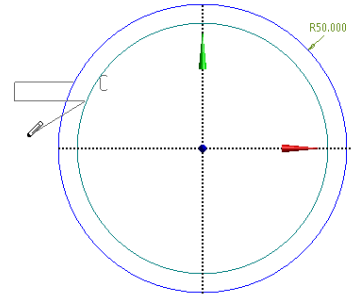

Figure 3-90 Sketch after creating the third entity of the polyline
22. Draw the vertical second entity of the polyline and then draw the horizontal third entity of the polyline. Make sure that the end point of the third entity is coincident with the inner circle, refer to Figure 3-90.